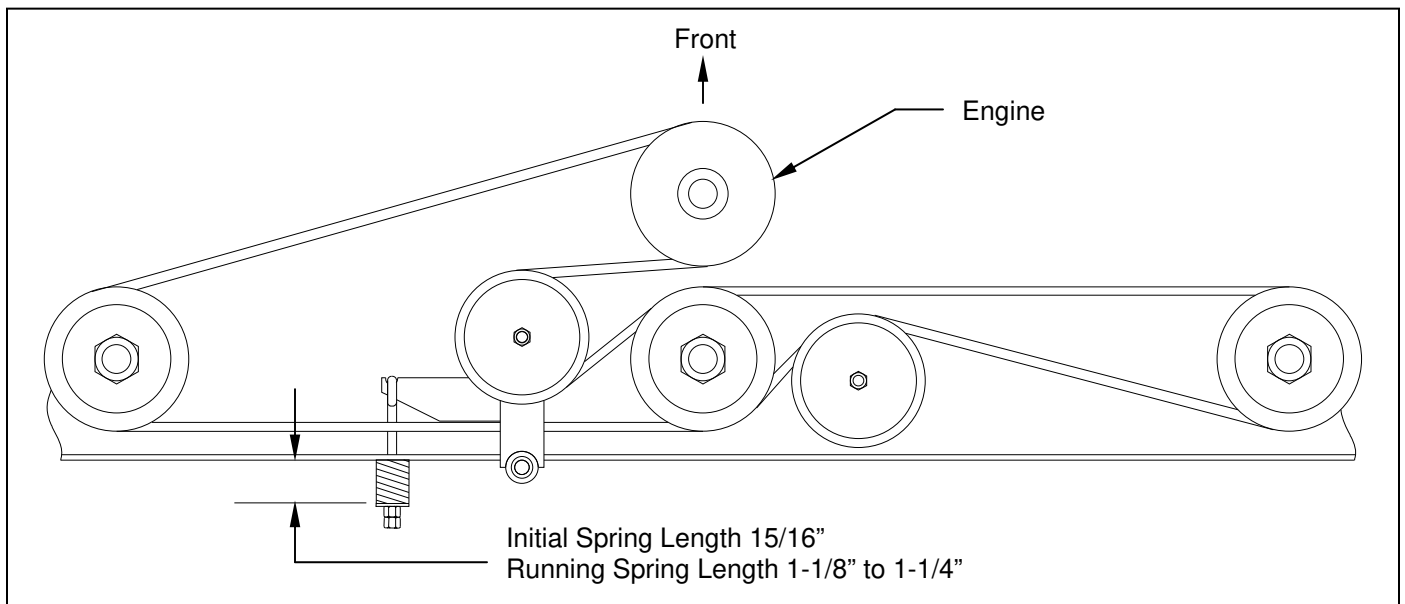

Figure 9: Belt Pattern and Spring Adjustment (Model C60V)
**Model C60V: – See Figure 9.**